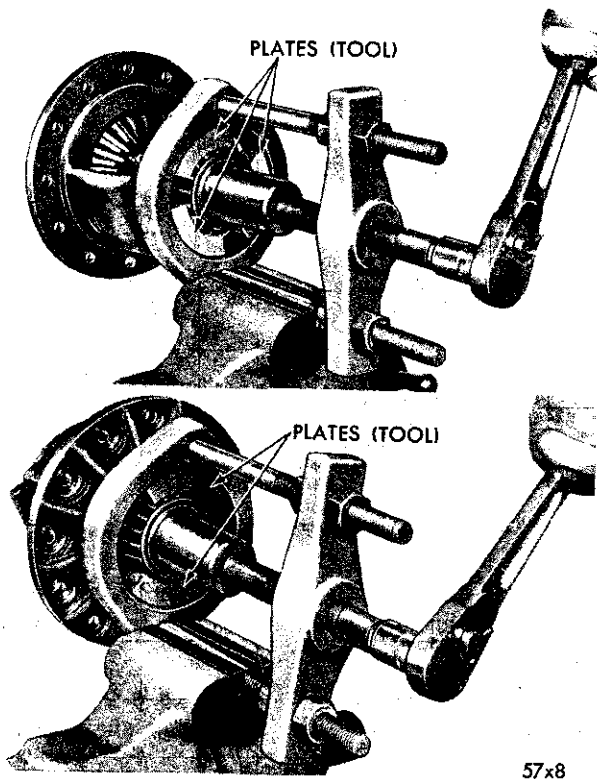

Fig. 14—Removing Differential Bearings
(1) Clean all parts in fast evaporating mineral spirits or a dry cleaning solvent and with the exception of the bearings, dry with compressed air.
(2) Inspect the differential bearing cones and cups for pitting, spalling or other visible damage. If replacement is necessary, remove the bearings from the differential case with puller Tool C-293 and four adaptor plates No. 18 (Fig. 14).
(3) Inspect the differential case for elongated or enlarged pinion shaft holes, the side gear counterbores and the four thrust washer contacting surfaces for galling, metal deposits or raised portions of metal. If any of the above conditions exist, satisfactory correction must be made or the case replaced. Inspect the case for cracks or other visible damage which might render it unfit for further service.
(4) Inspect the differential pinion shaft for excessive wear. Replace as necessary.
(5) Inspect the differential pinion gears for excessive wear, cracks, chipped teeth or other visible